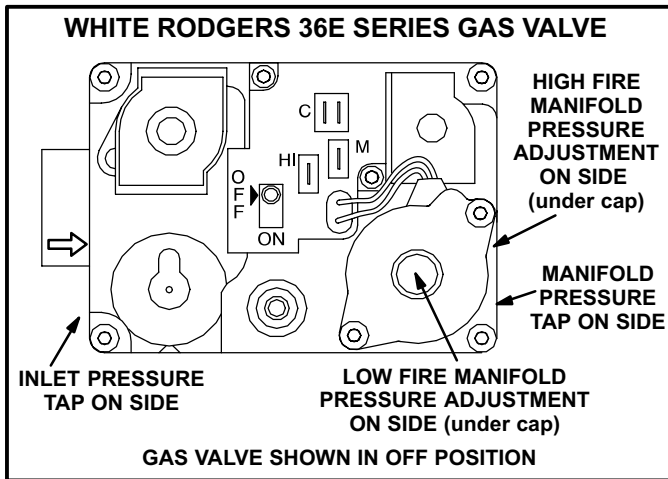

FIGURE 36
*White Rodgers 36E Gas Valve* - Switch gas valve lever to **OFF**. See figure 36 for the White Rodgers 36E valve.
*White Rodgers 36E Gas Valve* - Switch gas valve lever to **ON**. See figure 36 for the White Rodgers 36E valve.